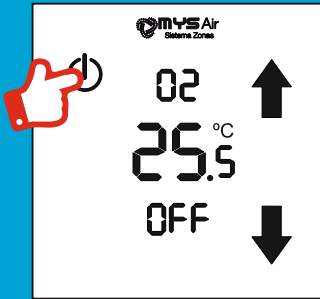

Fig. 1
To turn the thermostat on or off, press the  icon that appears on the screen (Fig. 1).
- 1) With the thermostat OFF, press and hold the **OFF** icon on the screen (Fig.1) until the display shows "00" flashing and the **CO_n** icon on the bottom of the screen.